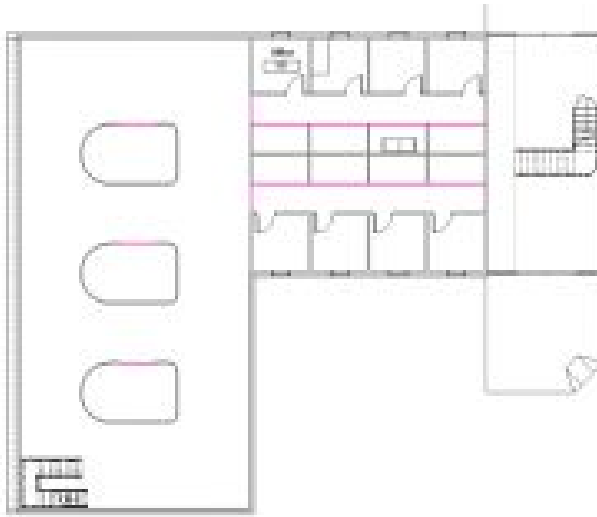

Figure 8.3 Separation Lines indicated by the pink lines
3. Draw the lines to create separate spaces as shown in Figure 8.3